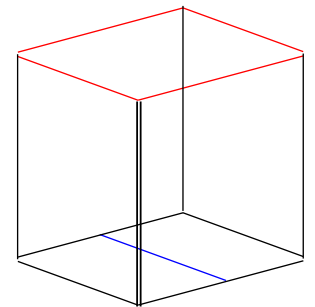

fig. 5
- 3.1 The remaining end frame needs to be lifted into place on to the upright timber frames. It is far easier with 2 people at this point. Lift and position the remaining End Frame up onto the upright framing, fitting the corners into the rebated ends. *(red in fig.5)*
- 3.3 Select 1 x End wall nog and nail in place, centrally between the top and the bottom plate *(blue in fig.5)*